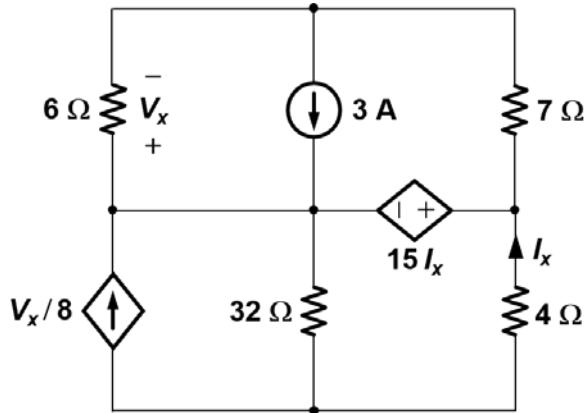

Fig. 5
5. (20 points) Use loop analysis to find the power delivered by the current-controlled voltage source in the circuit shown in Fig. 5.